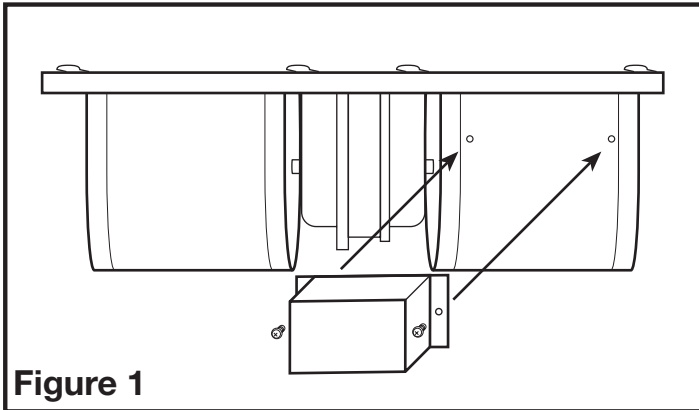

Figure 1
2. Position the capacitor cover over the two holes in the blower housing & attach using the two #6 screws provided (**Figure 1**).